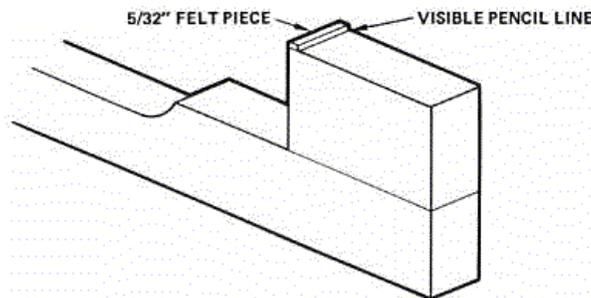

Figure 6-5. Key Pedestal -  $5/32"$  Felt Piece Mounted
11. One by one, remove  $5/32"$  (3.969mm) felt pieces from the paper backing and place them on the Key Pedestal in front of (closest to the Key Cap) the scribed pencil line so that the pencil line is visible after the  $5/32"$  (3.969mm) Felt Piece is securely mounted (Figure 6-5).